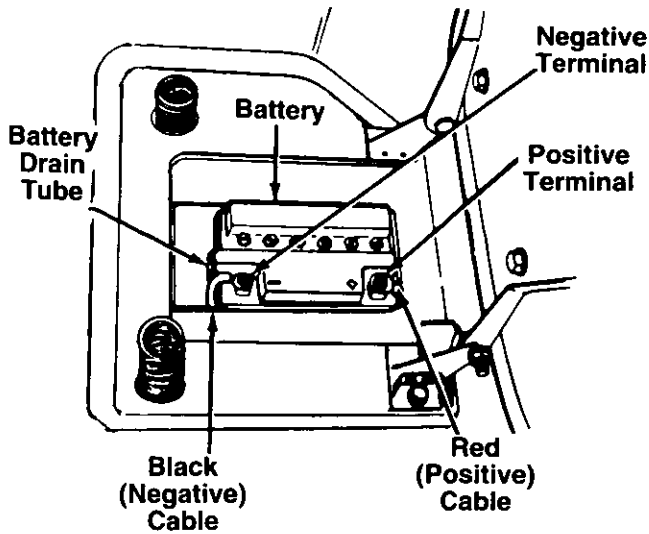

FIGURE 7.
- Place the battery inside the opening so that the positive terminal is toward the front of the unit. See figure 7. Route the battery drain tube down beside the battery.
- Remove the hex bolt from the positive (+) terminal. Place the positive cable on the positive terminal. See figure 7. Secure with hex bolt. Be careful not to lose the nut inside the terminal.